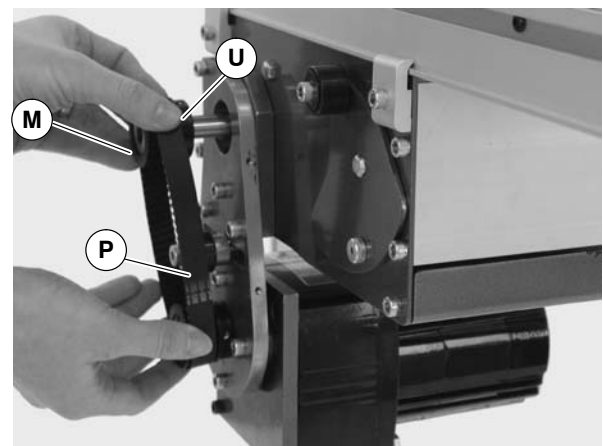

Figure 13
3. Remove timing belt (P of Figure 13).
NOTE: If timing belt does not slide over pulley flange, loosen driven pulley set screws (U of Figure 13) and remove pulley (M) with belt (P). For re-installation, see steps 5 and 6 on page 6.